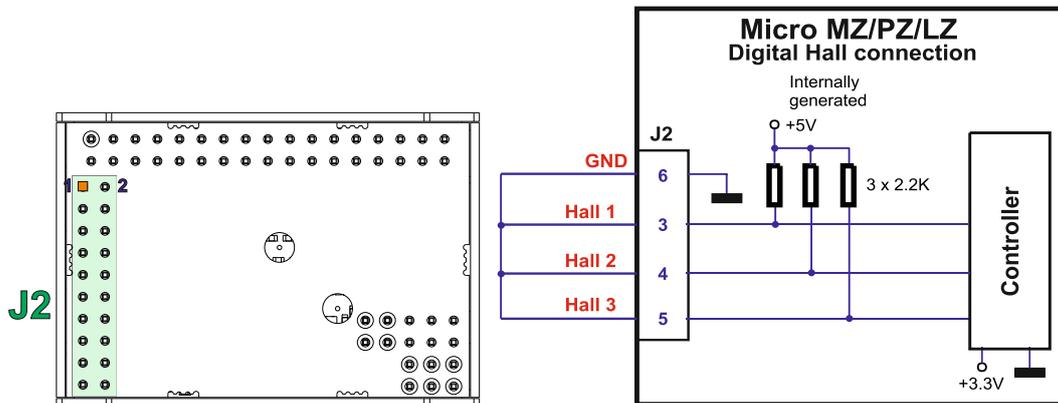
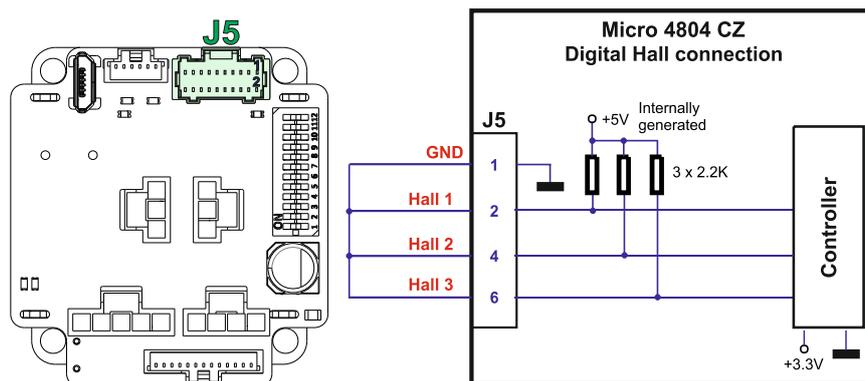

Figure 3-78 Temporary connection during power-on to invalidate the Setup table for Micro MZ/PZ/LZ
Figure 3-79 Temporary connection during power-on to invalidate the Setup table for Micro 4804 CZ
- Hardware2 – by temporary connecting all digital Hall inputs to GND, during the power-on for about 1 second, until the green LED is turned on, as shown in Figure 3-78 and Figure 3-79. This option is particularly useful when it is not possible to communicate with the drive.